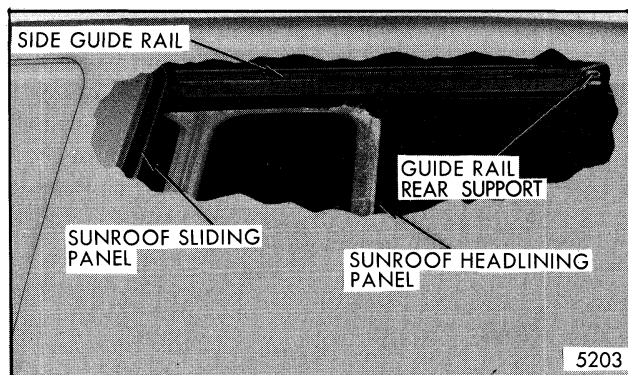

Fig. 8-77-Sun Roof Panel Headlining Engagement in Side Guide Rail
2. Align headlining panel with side guide rail lower channels and move rearward into sun roof housing (Fig. 8-77).
pull same forward for disengagement from guide rail rear support (Fig. 8-77).